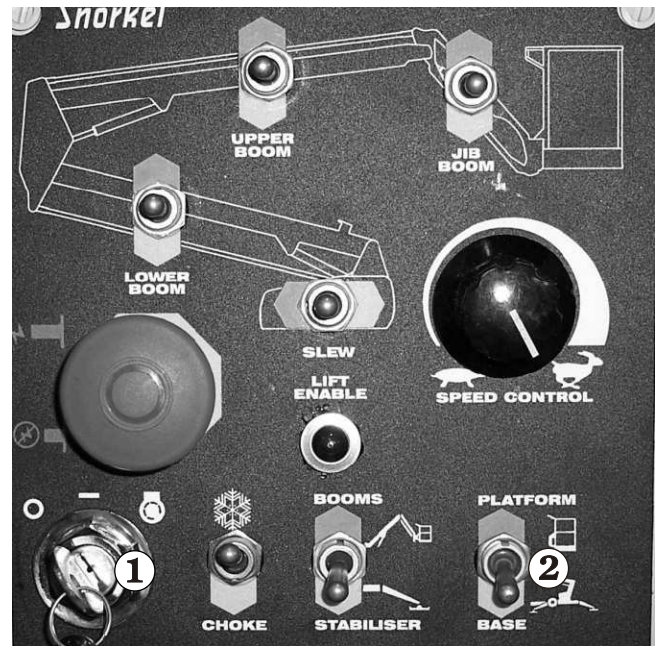

Figure 8.5
1. Insert the key **1** into the **Master Key Switch** at the ground control box and turn the key on (see Figure 8.5).
2. Set the **Platform/Ground Selector 2** (see Figure 8.5) at the ground control box to PLATFORM.